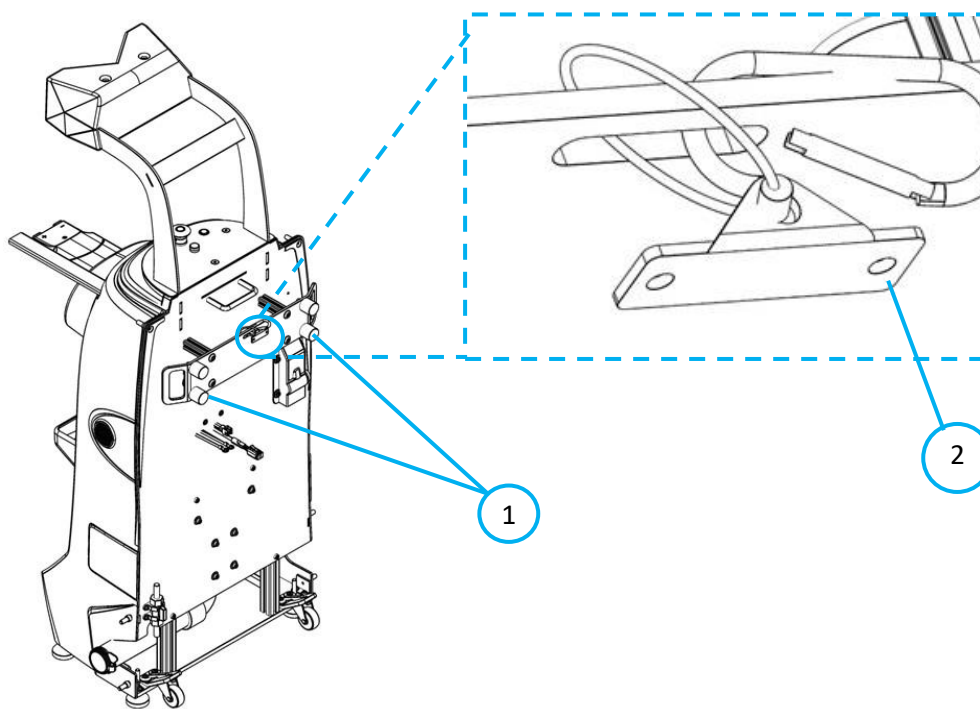
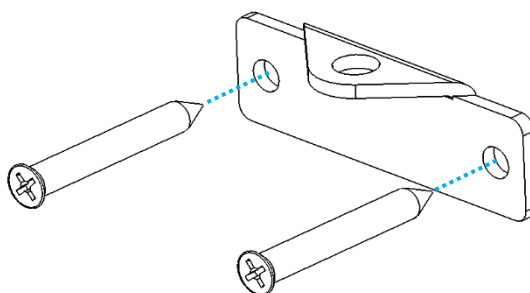

Fig. 1
Fig. 2
1. Place the refuel station against a wall. The rubber stoppers (Fig. 1 – 1) should be touching the wall.
2. Place the anti-tipping tab (Fig. 1 – 2) on the wall and secure it with screws (Fig. 2).